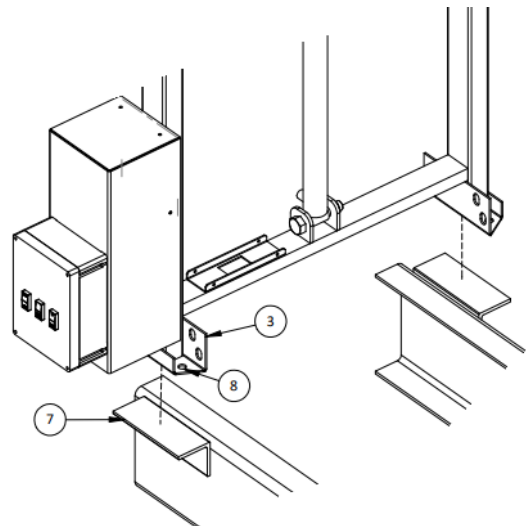

FIGURE 1.5: ALTERNATIVE MOUNTING
Shown below is an example of how the frame can be installed. It is recommended that the gantry bolt bracket gets welded to the bolt plate (7) or bolted through the horizontal holes (8) on the integrated bolt bracket (3), see *Figure 1.5*.